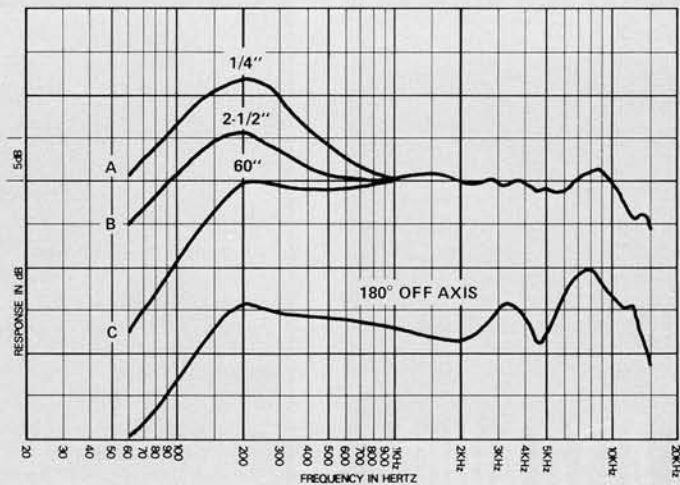

FIGURE 3—Frequency Response
The 671A's low-frequency response varies with the distance from the sound to the microphone as shown in the response curve (Fig. 3). Maximum bass response is produced in close-up use with the microphone ¼" from the sound source (Fig. 3/A). Minimum bass response is experienced at distances greater than 24" (Fig. 3/C).
**Caution notes:** With the sound source (lips) closer than 2", bass response is increased dramatically (as shown in Fig. 3/A/B). If too much signal is generated at the microphone, overloading in the amplifier input circuits may occur, causing severe distortion.